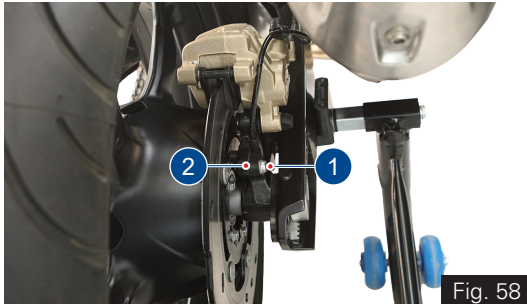

Fig. 58
- Remove the mounting screw (1) from the speed sensor mounting and carefully take out the speed sensor (2). (ref. Fig.58)
- Assemble the speed sensor (2) and mounting screw (1) in rear caliper (ref. Fig. 58).